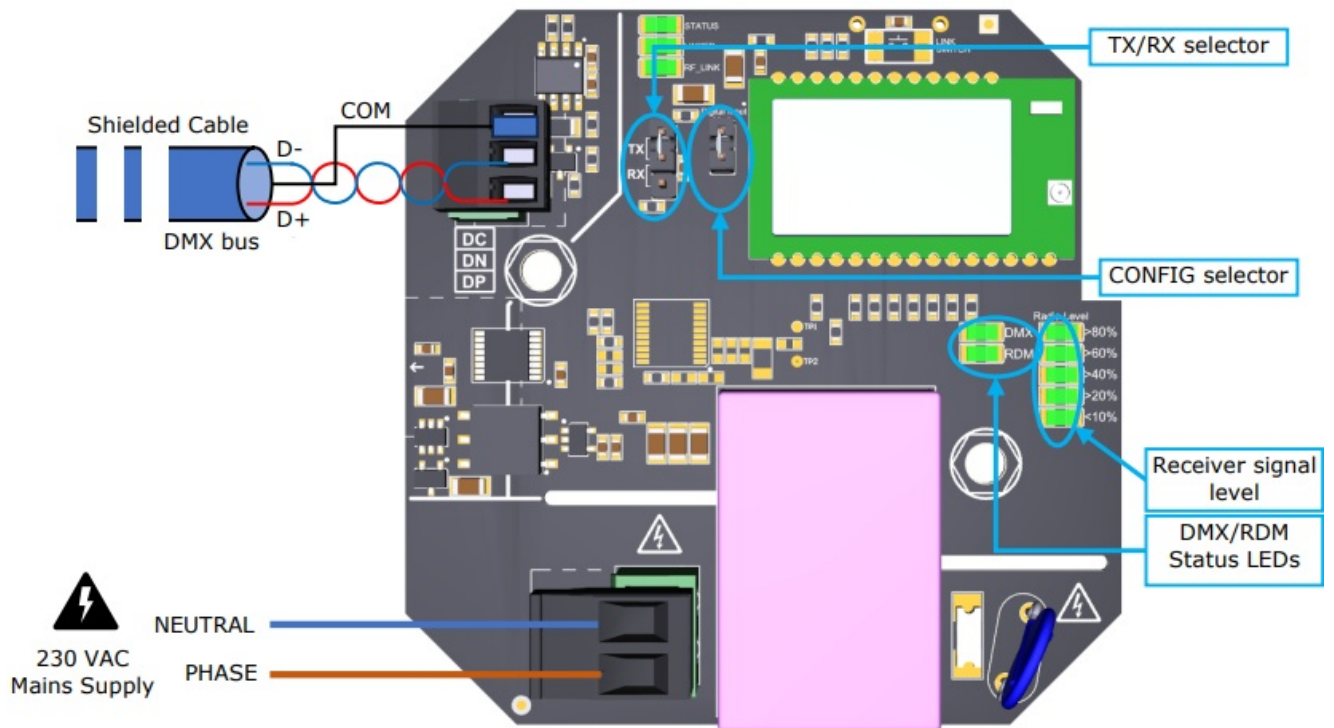

Figure 1: Main AC Voltage and DMX bus connections
- To connect AIR-BRIDGE-DMX to the DMX network, simply connect the DMX data bus signals D+, D-, and COM to the internal DMX terminal (refer to Figure 1). To maintain proper IP (Ingress Protection) rating, ensure the following:
- Each AIR-BRIDGE-DMX can be configured as transmitter (TX) or receiver (RX) manually via the internal jumper selector or remotely via Bluetooth with LumenRadio CRMX Toolbox© mobile application.
- To connect AIR-BRIDGE-DMX to the DMX network, simply connect the DMX data bus signals “D+”, “D-” and “COM” to the internal “DMX” terminal (refer to Figure 1).
AIR-BRIDGE-DMX can be powered by Mains AC Voltage supply at 230 Vac @50Hz. Once the remote control (DMX bus) is connected, connect the power supply to the "N" and "L" terminals of the AC IN terminal (refer to Figure 1).